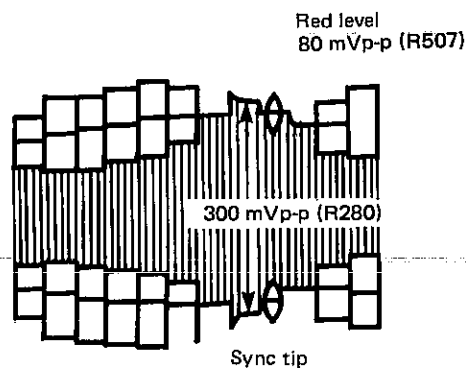

Figure 61.
- 5) Adjust sync tip to 300 mVp-p as shown in Figure 61 with R280 (REC Y LEV).